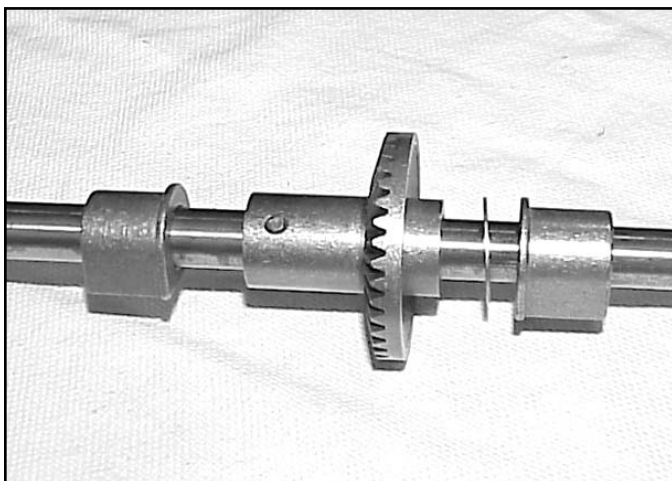

Fig 107
4. Slide the bearings and thrust washer off the axle. Drive the roll pin out and the bevel gear can then be removed (Fig. 107).